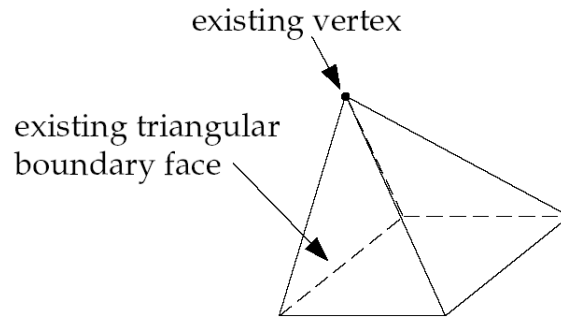

Figure 9.3.3: Using an Existing Node as the Pyramid Vertex
**Skewness** specifies that the new vertex of a pyramid should be placed just above the centroid of the quadrilateral base, or the pyramid should share the vertex of a neighboring pyramid or a node on an adjacent boundary face, whichever will yield the best skewness (see Figures 9.3.3 and 9.3.4). This is the default option, and is the best choice for most cases.
**Neighbor** specifies that if the pyramid is adjacent to a triangular boundary face and the angle formed by the quadrilateral base and the triangular boundary face is not greater than 115 degrees. The pyramid should not use a node on that boundary as its new vertex, (Figure 9.3.3).